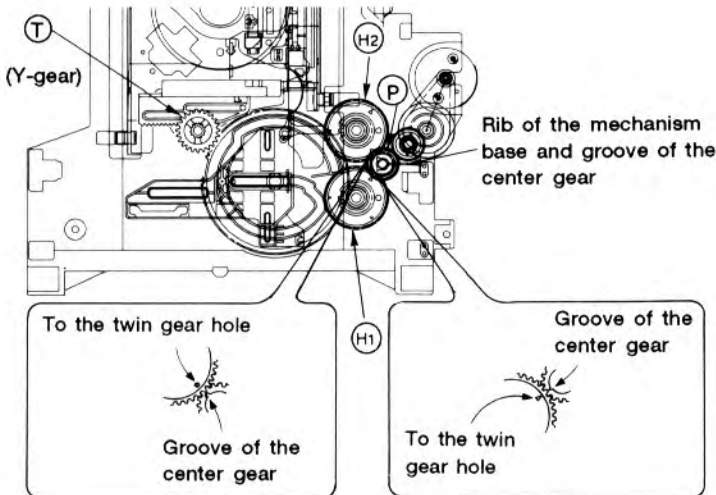

Fig. 2-11
- Attach the center gear ②, twin gears ①① and ①②, and Y-gear ① in the positions indicated in Fig. 2-11.